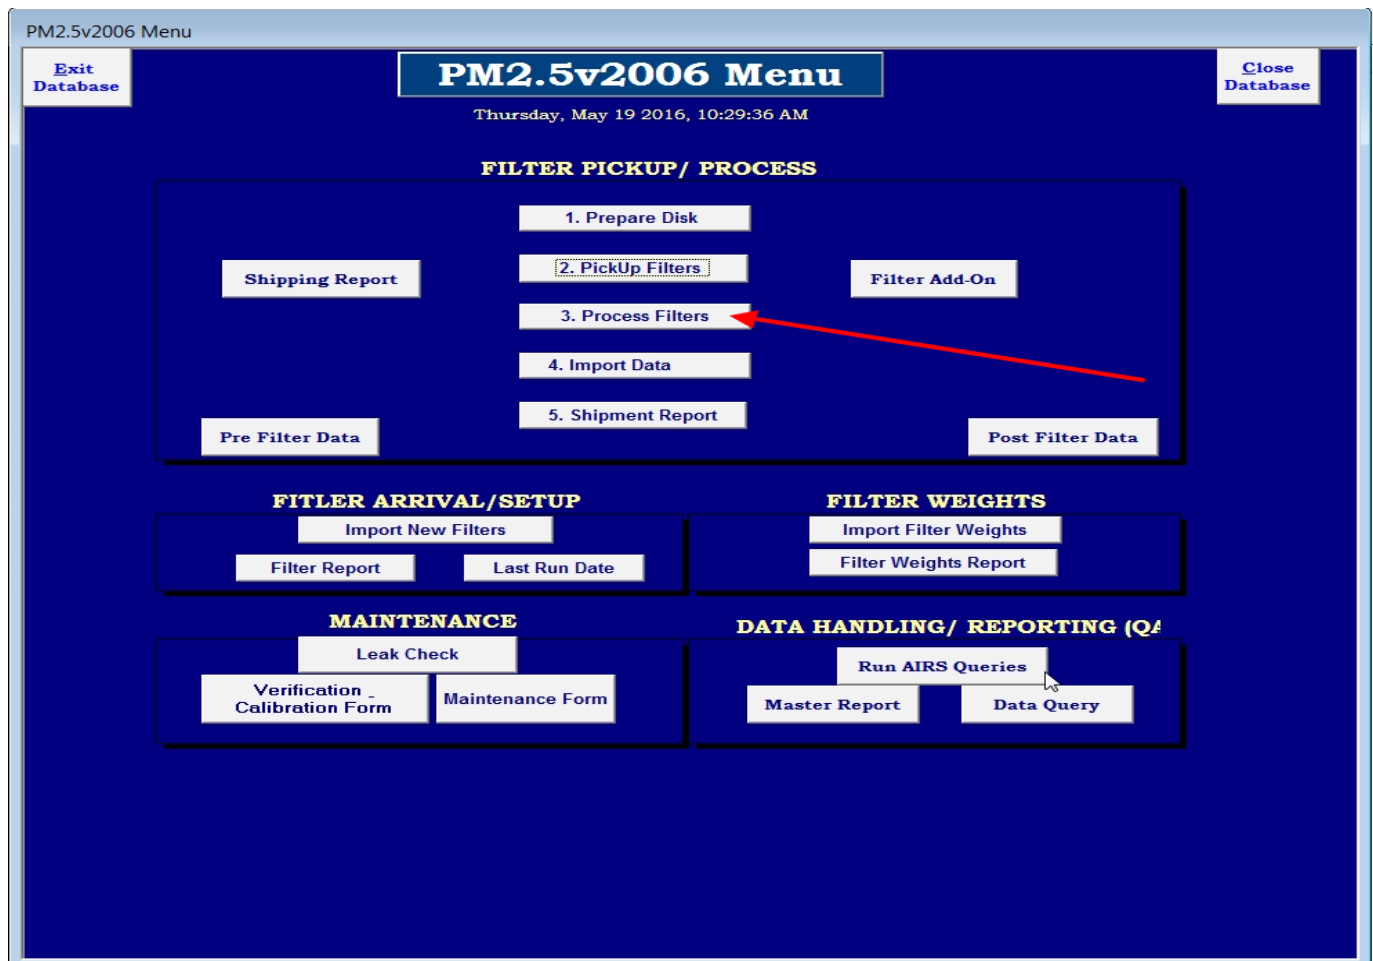
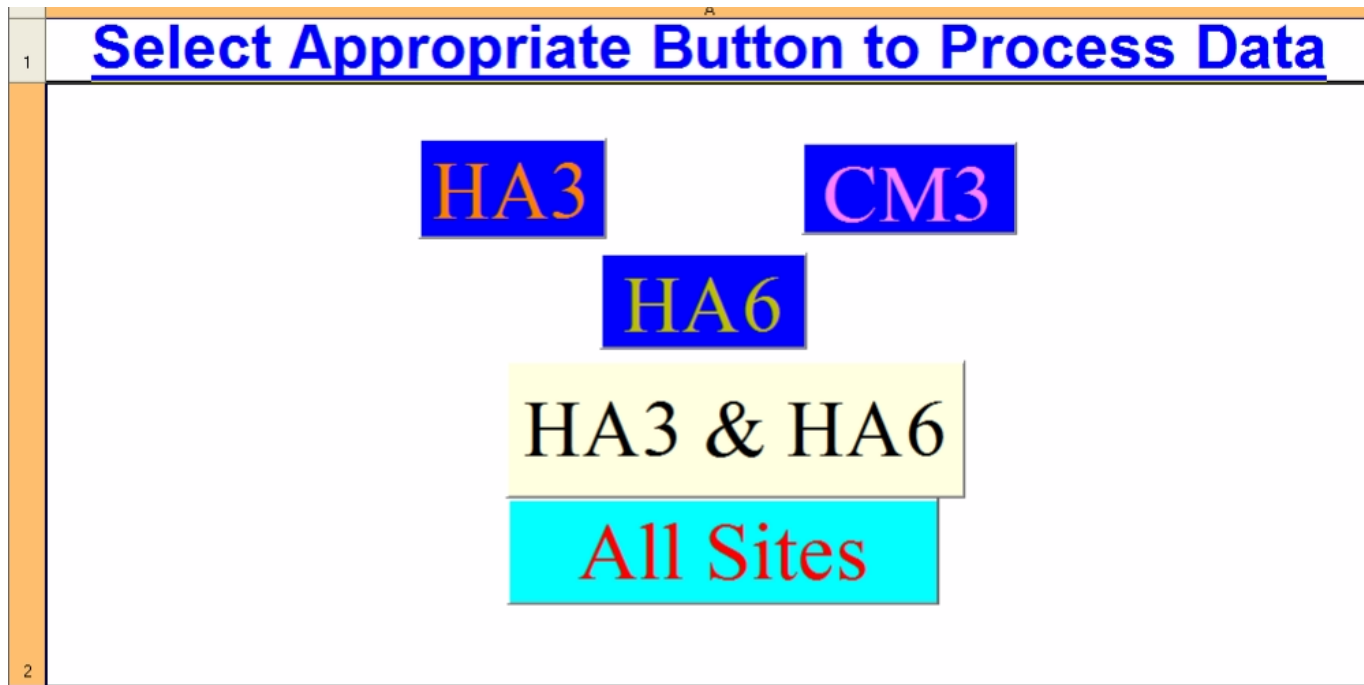

Figure 25: Process Filters Button
Figure 26: Macro05v4.xls
6.4.4.1 Insert the PM_{2.5} flash drive in an open USB port on your computer and open Access (S:\PM_{2.5}\DATABASE\PM_{2.5}V2006) Click “3. Process Filters” (see Figure 25). This opens up an Excel Macro Macro05v4.xls (make sure to “enable macros” if prompted) (see Figure 26).